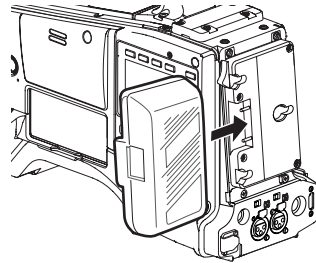

Fig. 1
**1** Insert a charged battery pack. (Fig. 1)